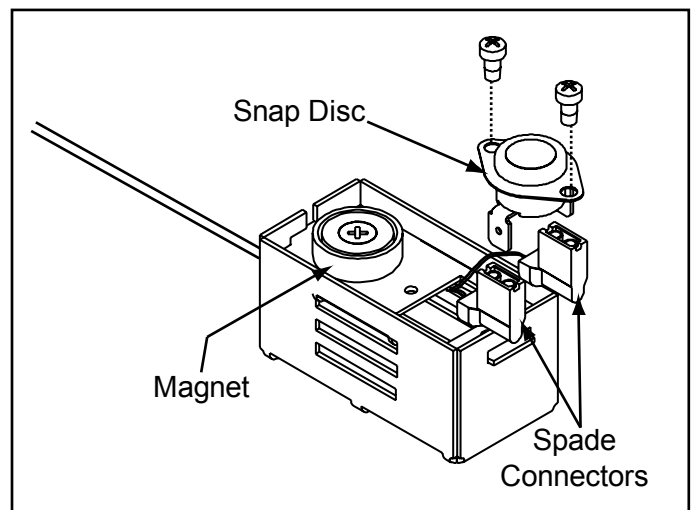

Figure 35.4
3. Pull the snap disc and spade connectors up and out of bracket as shown in **Figure 35.4.**